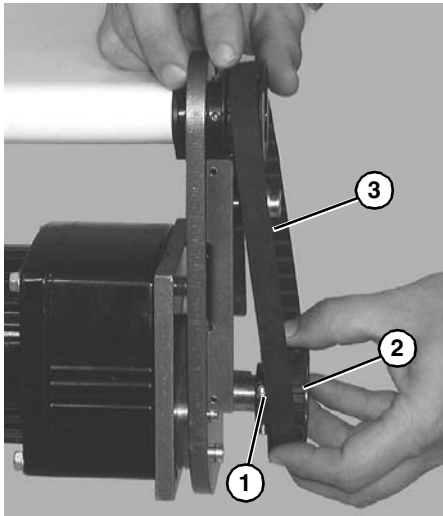

Figure 27
If drive pulley (Figure 27, item J) is replaced, wrap timing belt around drive pulley and complete step 3.
3. Loosen drive pulley set screws (**Figure 27, item 1**). Remove drive pulley (**Figure 27, item 2**) and timing belt (**Figure 27, item 3**).
*Drive pulley (**Figure 27, item 2**) is removed. Wrap timing belt around drive pulley and complete step 10.*